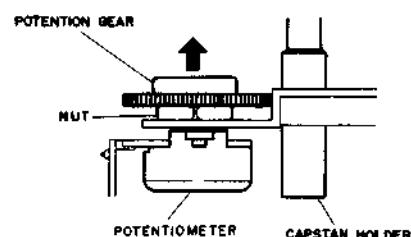

Fig. 4-13
- 4) Remove the potentiometer gear. Unscrew the position potentiometer securingnut. (See Fig. 4-13.)